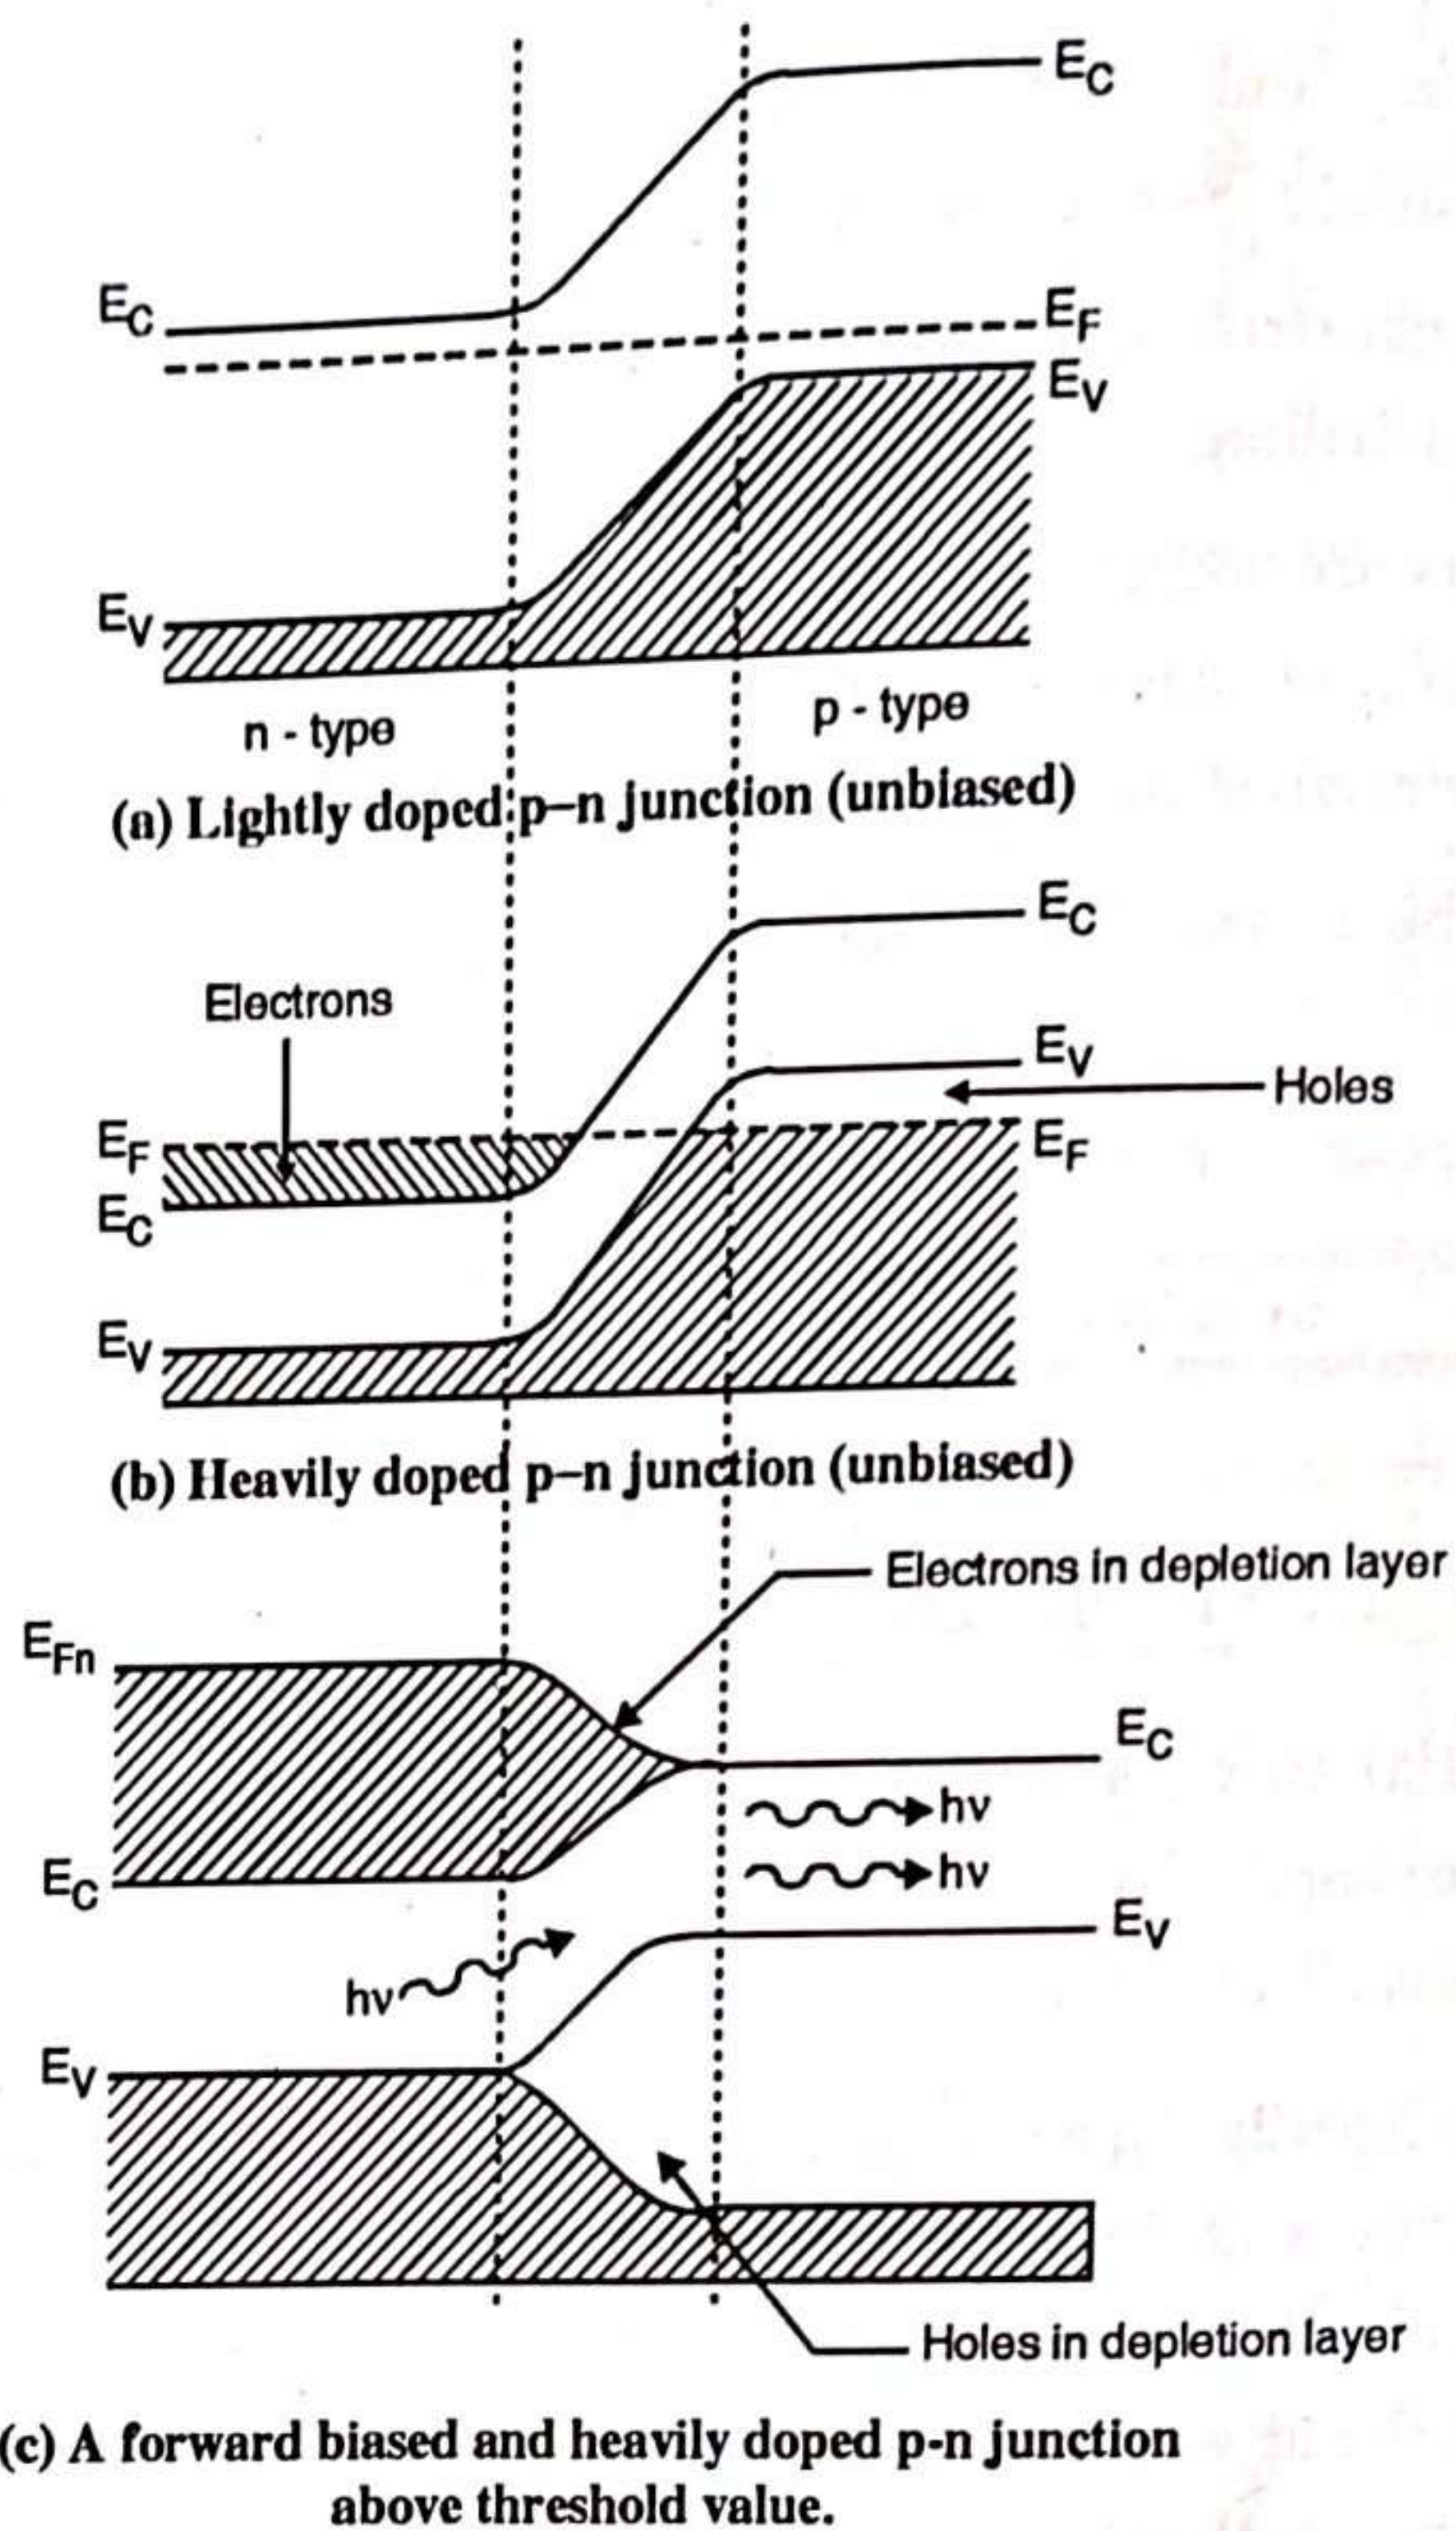

Fig. 4.13.1 : Energy bands in semiconductor laser
- Fig. 4.13.1(a) shows a scheme of an ordinary p-n junction semiconductor. The valence band in p-region has holes and conduction band in n region has free electrons. This is the condition when semiconductor is lightly doped.
- When it is heavily doped, we get some electrons shifted to conduction band and holes are seen in valence bands. But this does not create population inversion at all (Fig. 4.13.1(b)). The Fermi level on n-side is found on conduction band and on p-side it is found on valence band but it is in equilibrium at both sides.
- When a forward biased is applied, energy level diagram gets altered as shown in Fig. 4.13.1(c). Electrons from conduction band of n-type and holes from valence band of p-type are injected into depletion layer.